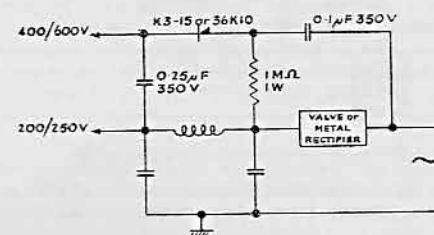

Fig. 3—Voltage doubler circuit using an additional rectifier in conjunction with existing h.t. source.
3. From a small additional rectifier employed in conjunction with the existing h.t. source as a voltage doubler (see Figure 3) between 400 and 500V can then be obtained. In some a.c. mains-operated receivers where the additional first anode voltage required is not large, it may be found more satisfactory to place a potential divider across half the secondary winding of the mains transformer. The voltage doubling arrangement should be fed from the junction of the divider. When calculating the values of the resistors forming the potential divider a bleeder current of 1mA is usually taken.